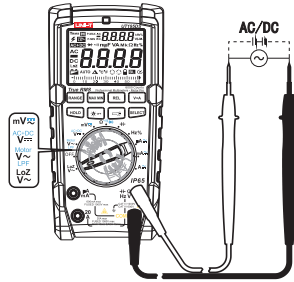

Figure 1
1. AC/DC Voltage Measurement (See Figure 1)